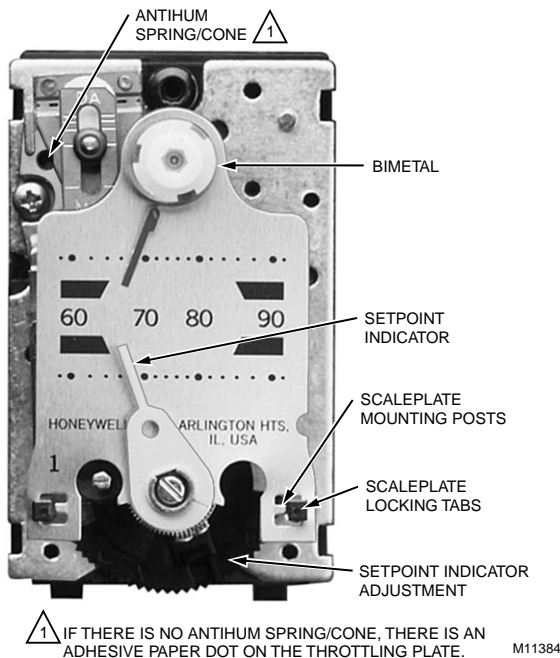

Fig. 17. Internal View of Thermostat.
1. Insert the blade of a small screwdriver under the bimetal (Fig. 17) and pry up. Older style thermostats have a locking ring. Insert the blade between the ring and white nylon bushing and pry the ring from the thermometer bimetal mounting post.
1. Remove the setpoint indicator (Fig. 17) by prying it off the indicator post with a small screwdriver.
2. Remove the thermometer bimetal (Fig. 17) by lifting the plate to which the scaleplate is attached, at the hex of the bimetal mounting post.
3. Bend the scaleplate locking tabs (Fig. 17) up and compress the scaleplate mounting posts (Fig. 17) together with the thumb and forefinger to free the scaleplate from the holding notches in the post.
4. Remove and replace setpoint indicator adjustment (Fig. 17), using caution not to damage or distort the bimetal sensing element(s). On models with DAY-NITE temperature setpoint wheel (located under the right sensing element), see the NOZZLE, THROTTLING PLATE, and BIMETAL ASSEMBLY REPLACEMENT section for removal of the bimetal and DAY-NITE scale prior to removing the setpoint indicator adjustment.
5. Reassemble in reverse order and recalibrate if required. It is not necessary to re-engage the scaleplate locking tabs (Fig. 17) in the holding notches of the scaleplate mounting posts, as they are primarily for shipping purposes.
8. Check that the antihum spring or cone (if used) is properly positioned so that the spring just touches the throttling plate and the base of the spring (larger end) is seated properly in the recess of the spring mounting hole (Fig. 17).